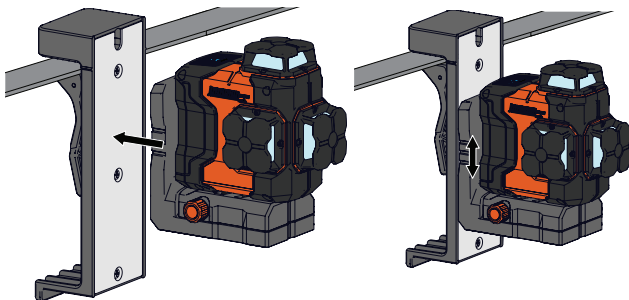

Figure 12
3. To attach the unit to the track mount, place the unit's magnets on the metal plate. Slide the unit up or down to adjust its position. (Figure 12)